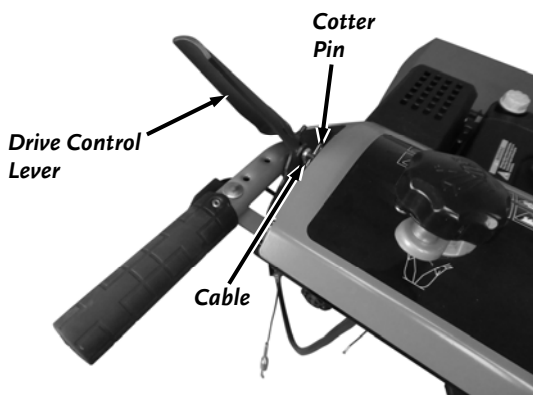

Figure 10
6. Remove the Cotter Pin from the Drive Control Lever and remove the Cable from the Lever Pin (**Figure 10**).
8. Reinstall the Cable end to the Lever Pin and secure with the Cotter Pin (**Figure 10**).